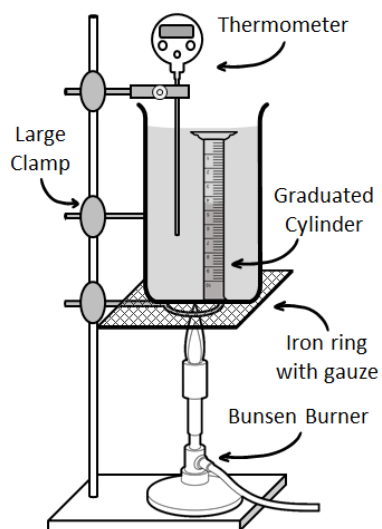

Figure 1: Experimental setup
- Set up the apparatus as shown in the illustration below (Figure 1). Be sure your iron ring and gauze wire is set up so that the beaker is level. Use the large clamp to clamp the beaker to the ring stand. The thermometer tip should be close to the graduated cylinder.